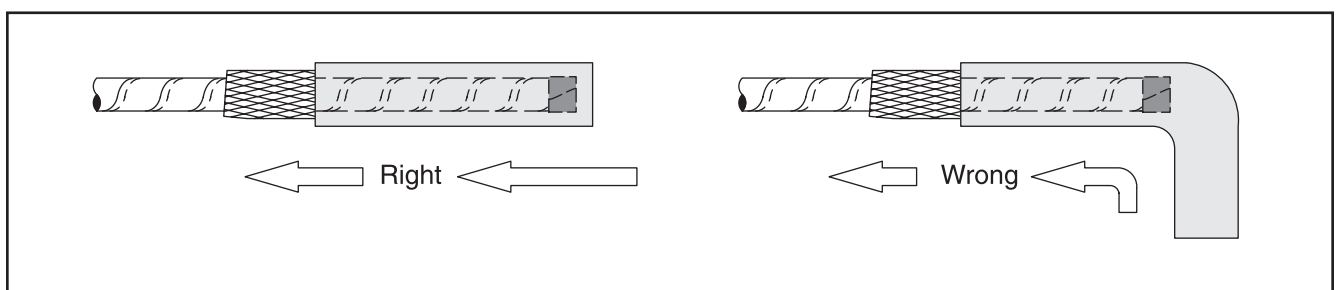

Figure 7
3.4 Guide one re-jacketing sleeve assembly over each cable phase leg (Figure 7).